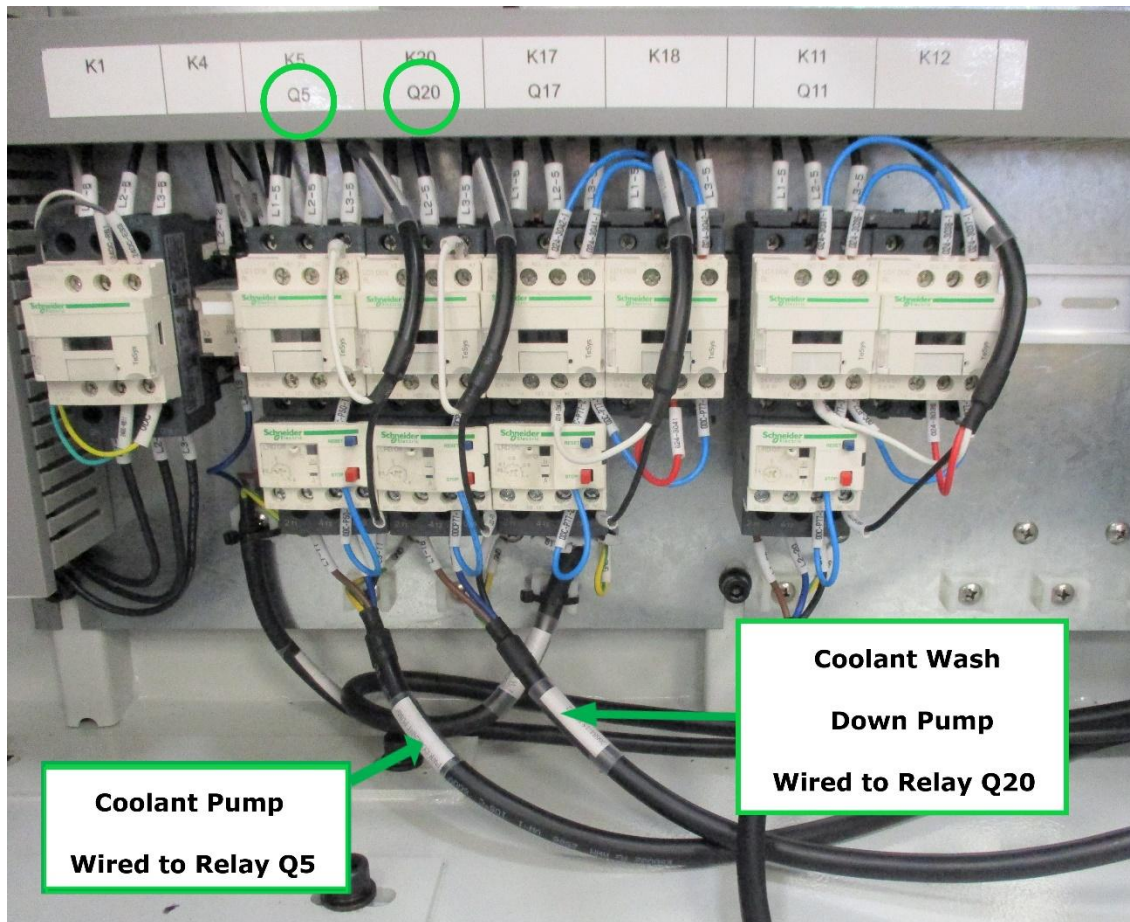

Figure 5.1.8.2a
2. Trace electric wires from coolant or wash down pump needing replacement. Coolant pump connects to junction Q5 coolant and wash down pump connects to junction Q20 wash down in the electrical cabinet as shown in figure 5.1.8.2a.